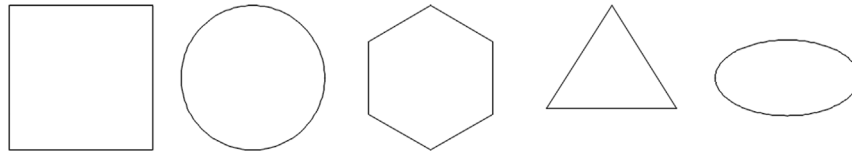

FIGURE 7.19 Basic block shapes.
Step 1. Create five shapes and make a block out of each—a square, a circle, a hexagon, a triangle, and an ellipse—as seen in Fig. 7.19.